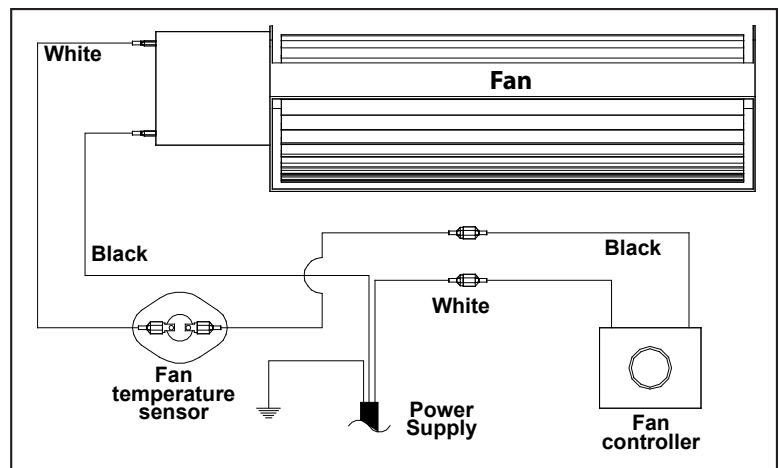

Figure 46: Wiring Diagram For Fan Control.
3. Open the gas valve cover. Carefully cut the decal portion on the control panel and install the fan control switch in this location. See Figure 46 for wiring of optional blower.